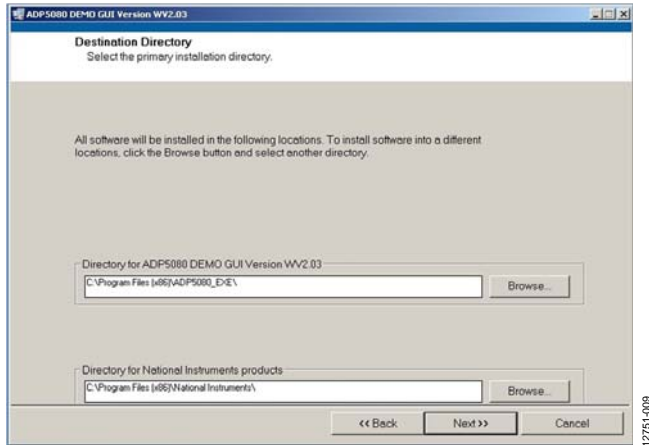

Figure 13. **Destination Directory** Window
- When prompted, select the primary installation directory, use the default values, and click **Next** (see Figure 13).